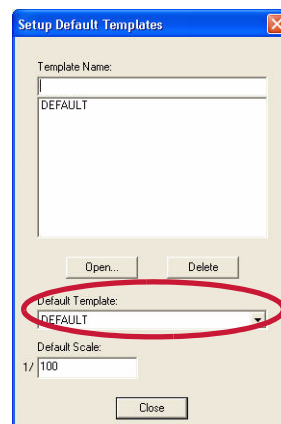

Figure 1-1 The Setup Default Templates dialogue box
2. In the **Default Template** area, check that **DEFAULT** is selected, as shown in Figure 1-1.